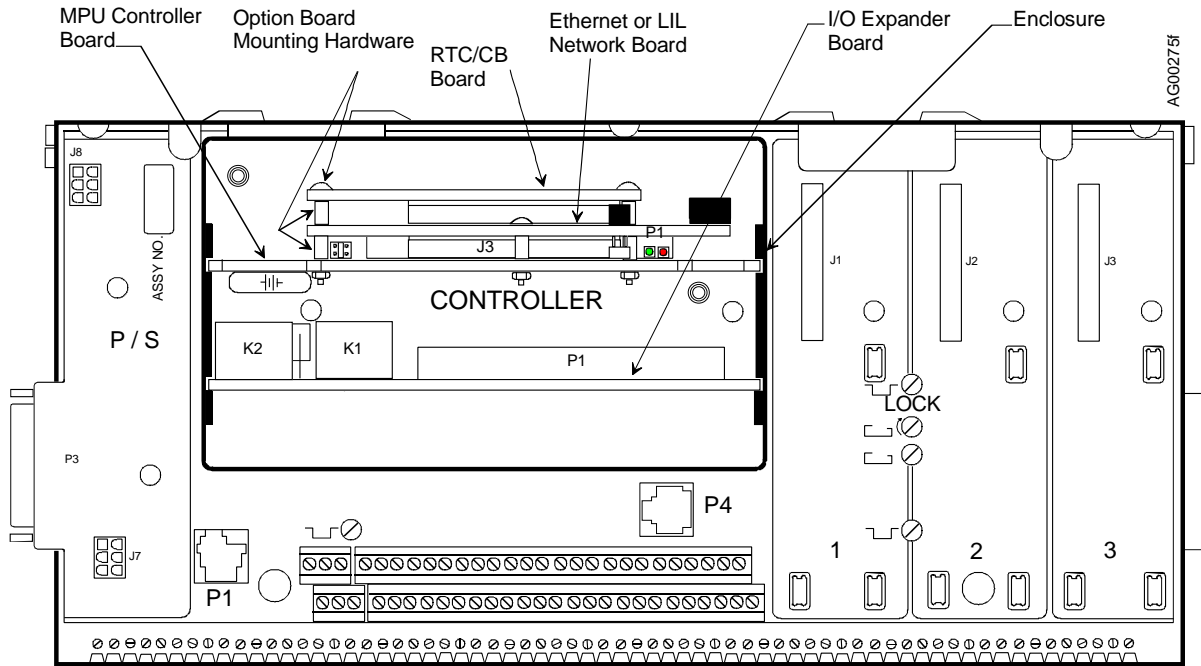

FIGURE 9-2 Controller Module, Circuit Board Locations
5. Firmly seat the MPU Controller board and, if installed, I/O Expander board. Do not use excessive force. See Figure 9-2 for board location. Set MPU Controller board jumpers W2 and W8. Refer to Figure 9-3.